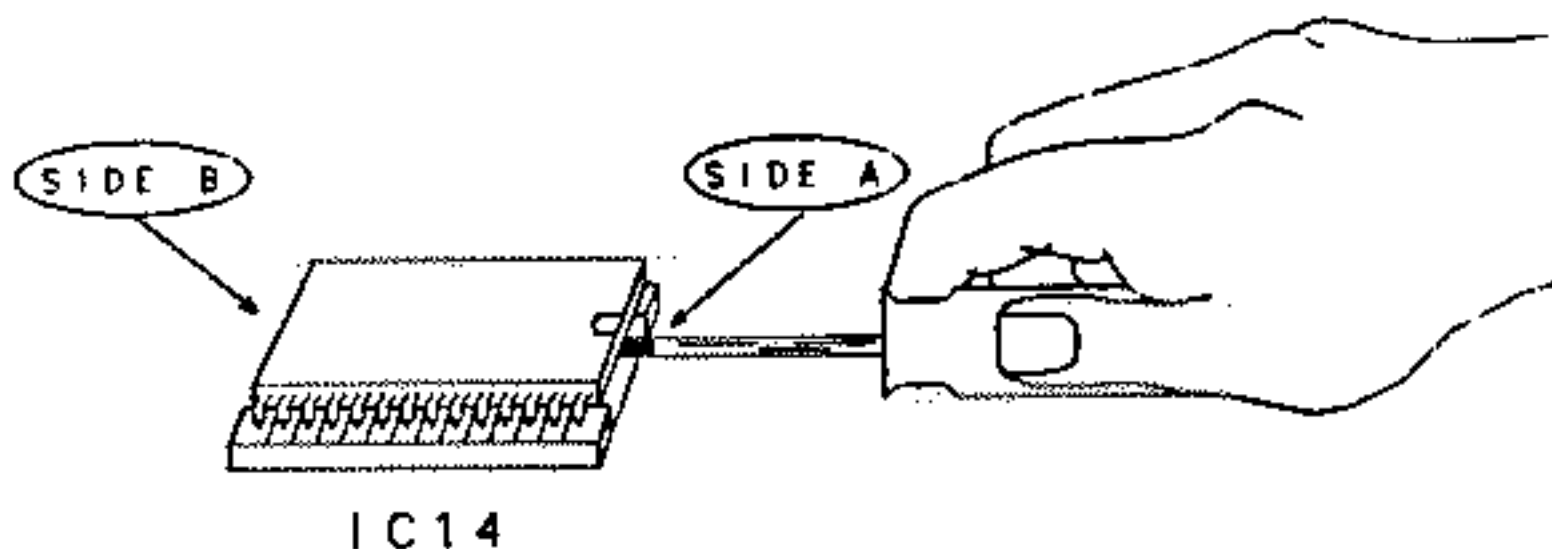

FIGURE 4
- (5) Before removing IC14 from its socket, note the location or direction of the notch of IC14. As you are facing the unit, the notch of IC14 should be positioned so that it points to the right hand side of the DX7. Now carefully place the blade of a small flat-blade screwdriver between the IC14 and its socket. Gently pry up IC14, first on one side (SIDE A) and then on the other (SIDE B) as shown in FIGURE 4. Repeat the process until IC14 is freed from the socket and put it aside.